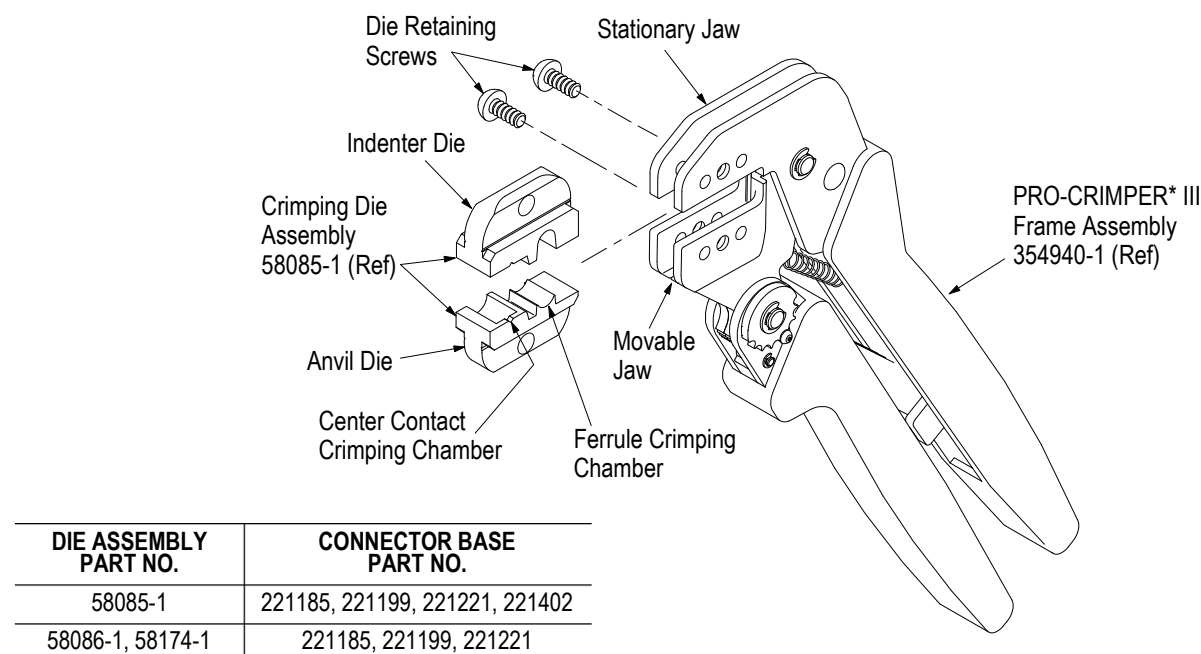

Figure 1
Refer to Figure 1 for a list of connectors that are compatible with the die assemblies. For additional connector part number information, refer to the PRODUCT INFORMATION number listed at the bottom of this page. For instructions concerning the operation of the tool frame, refer to Instruction Sheet 408-9930. Read these instructions thoroughly before using the die assemblies.
2. DESCRIPTION (Figure 1)
- Slide the die assembly into the partially-opened tool jaws. The anvil die must be installed in the movable jaw of the tool and the indenter in the stationary jaw. The center contact crimping chamber must be toward the front of the tool as shown in Figure 1.